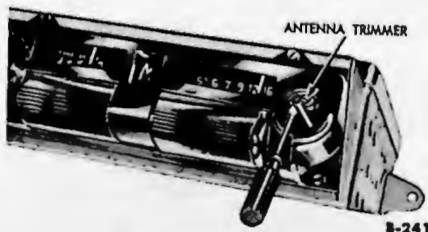

Fig. 4—Antenna "Trimmer"
(2) **"TRIM" ANTENNA.** Turn the radio receiver on to full volume and allow it to operate for 5 to 10 minutes. Set the tone control to the "high" position. Tune in the weakest station to be heard between 12 and 16 on the dial. This is important, as a loud station will not permit accurate adjustment. Remove the tuning knob and, with a small screwdriver, turn the trimmer screw (see fig. 4) first in one direction and then in the opposite direction until the station comes in the loudest. If a peak of reception cannot be obtained by adjusting the trimmer screw, either the station tuned in is too strong, or the antenna is defective. If necessary, repeat the antenna test (subject 18805).